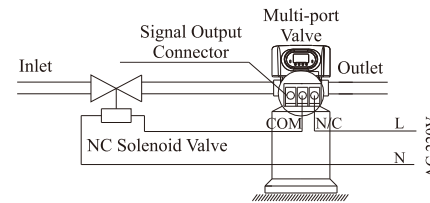
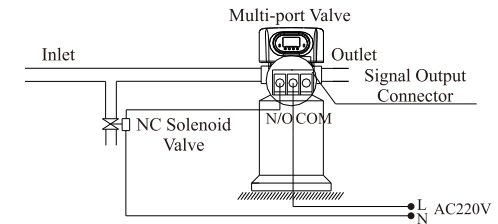

Figure 3-2 Wiring of Solenoid Valve on Inlet
Figure 3-3 Wiring of Pressure Relief Port
②Solenoid valve on inlet (Set b-02)
**Instruction:** When inlet pressure exceeds 0.6MPa, install a solenoid valve on inlet. Control mode is b-02. Pressure is relieved when valve switching, the wiring refers to Figure 3-2. As Figure 3-3 shows, it also can use the pressure relief connector to work.